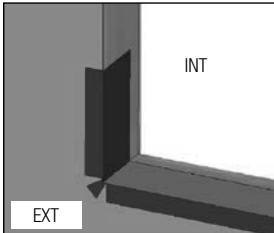

FIG. 5
- D) Apply sill flashing to the rough opening as shown below. (Fig. 5)